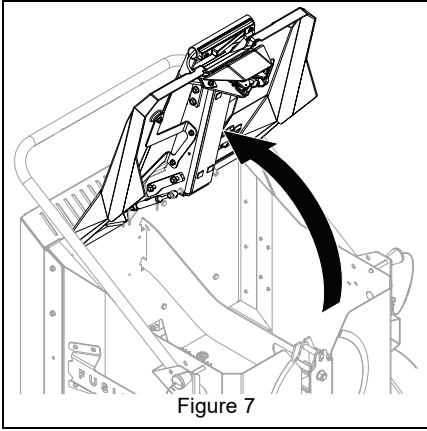

Figure 7
1. Squeeze handle to unlatch and lift hood assembly. See Figure 7.